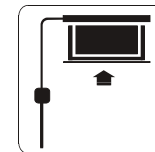

Figure 23
3. Turn the switch to position "+" to lower the screen; it will go up into the metal casing. When it is all the way up, it will stop automatically (Figure 23).